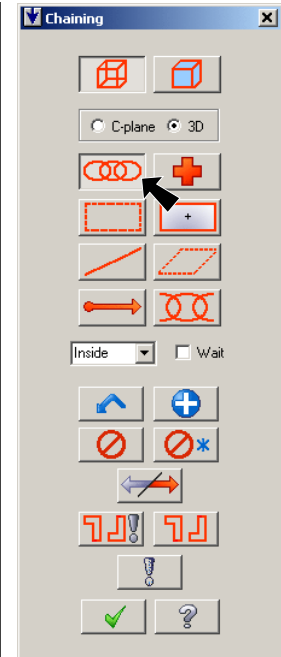

Fig. 43
Step 4. Select **Chain**  in Chaining dialog box, **Fig. 43**.